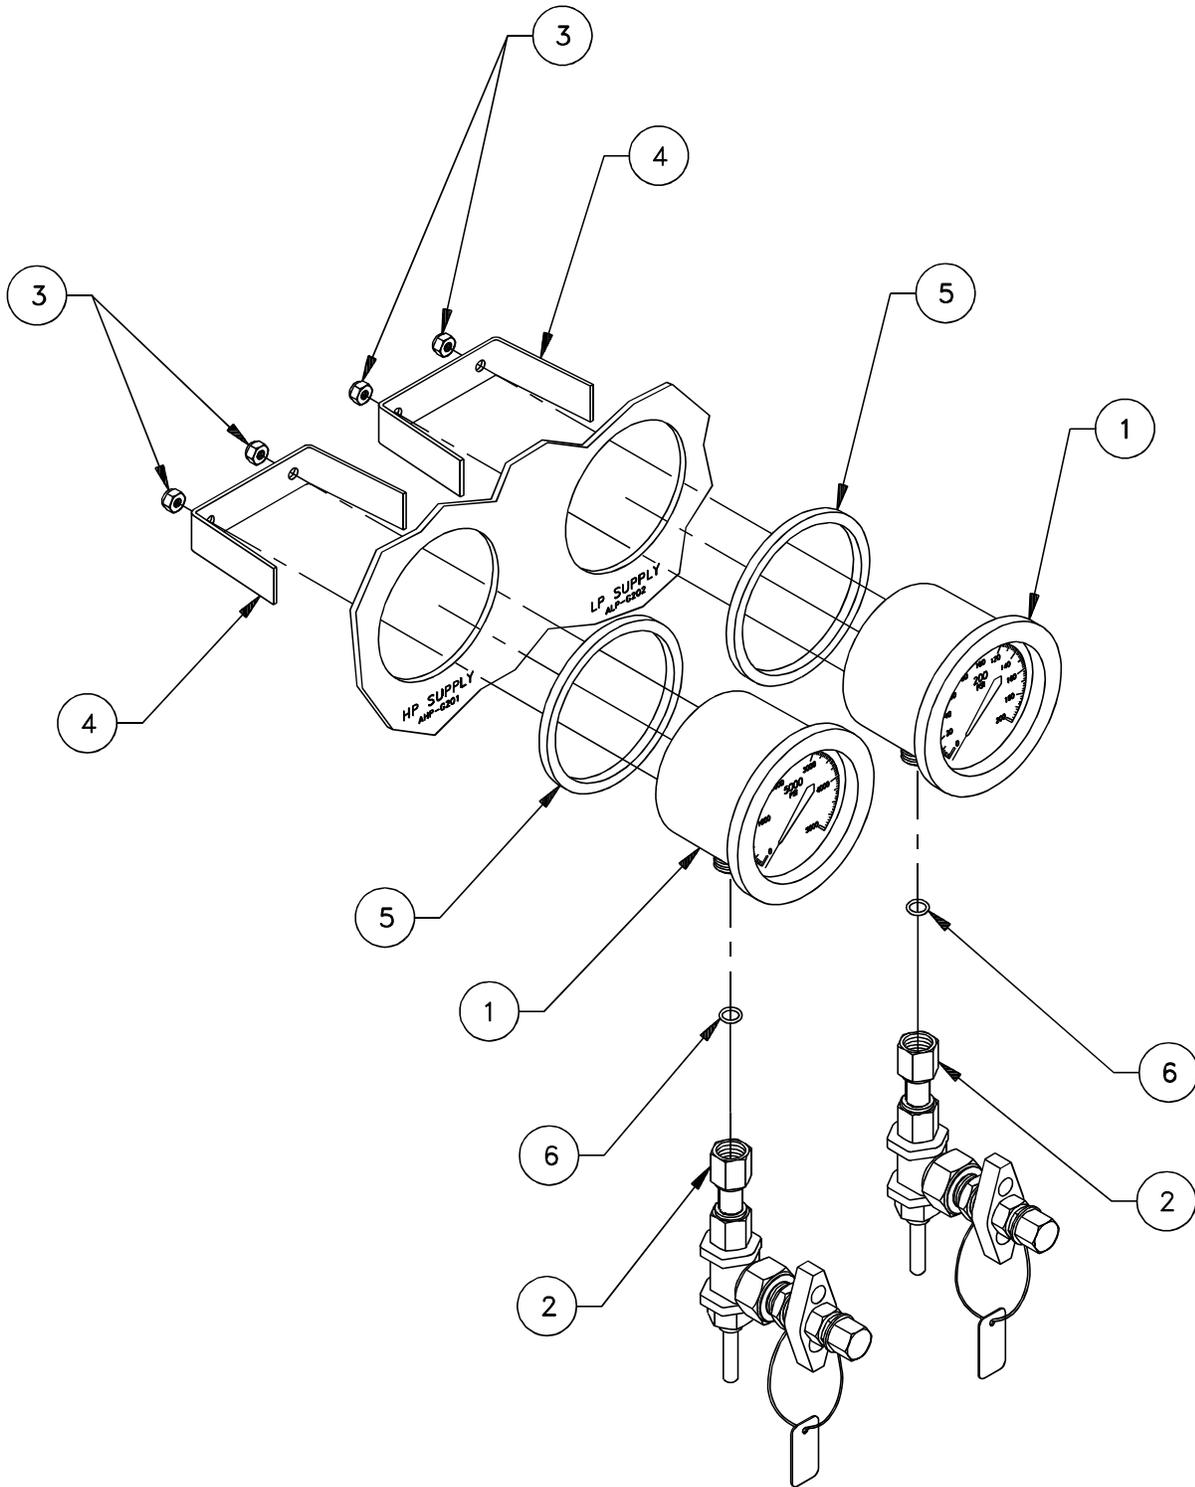

Figure 6-5. HP Gauge (AHP-G201) or LP Gauge (ALP-G202)
6.5.2.6 HP Gauge (AHP-G201) or LP Gauge (ALP-G202) Removal and Replacement (Figure 6-5).